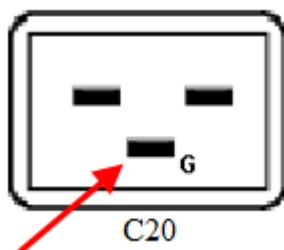

Figure 97 The ground conductor on the rear panel AC power connector
- b** The primary earth ground conductor on the rear panel AC power connector as shown in Figure 97.